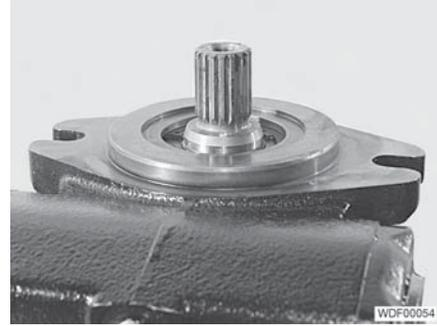

Fig. 117 Variable displacement pump drive
- Clean the internal teeth of the clutch hub and variable displacement pump drive (Fig. 117) to remove locking agent residues.